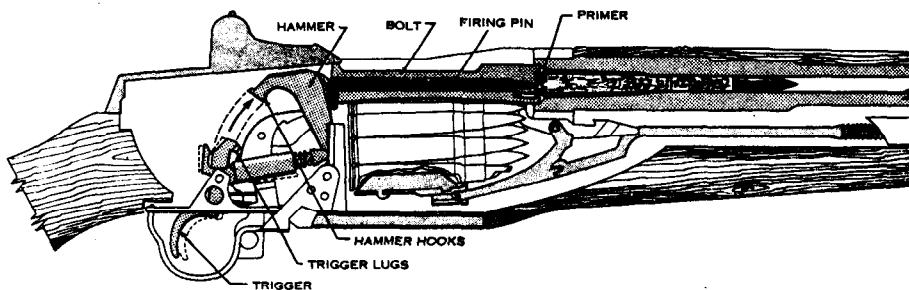

Figure 27. Firing.
- (4) *Firing.* Firing occurs when the firing pin strikes the primer. As the trigger is pulled the trigger lugs are disengaged from the hammer hooks and the hammer is released. The hammer moves forward under the pressure of the hammer spring and strikes the tang of the firing pin, driving the firing pin against the primer and firing the round (fig. 27).
- (5) *Unlocking.* Unlocking occurs after the firing of the round. As the bullet is forced through the barrel by the expand-